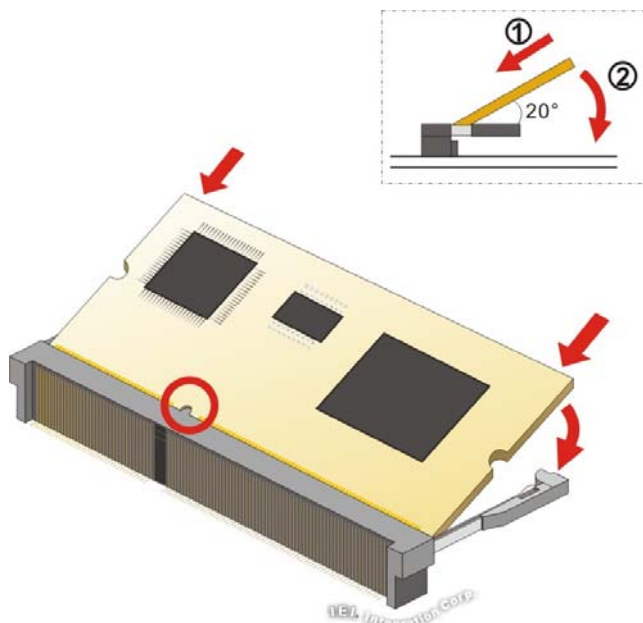

Figure 3-14: iRIS-2400 Module Installation
Step 4: Align the iRIS-2400 module with the iRIS-2400 module slot. Align the notch on the module with the notch on the iRIS-2400 module slot (Figure 3-14).
Step 5: Insert the iRIS-2400 module. Push the module in at a 20° angle (Figure 3-14).
Step 6: Seat the iRIS-2400 module. Gently push downwards and the arms clip into place (Figure 3-14).